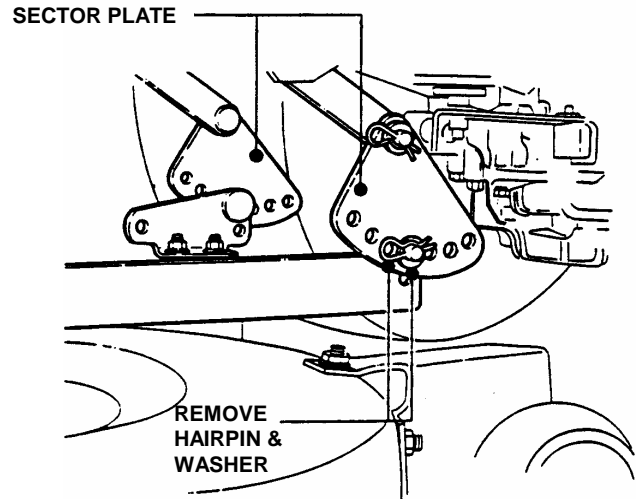

FIGURE 4.7
4. Remove hair pins and washers securing rear of deck to sector plates. See Figure 4.7.